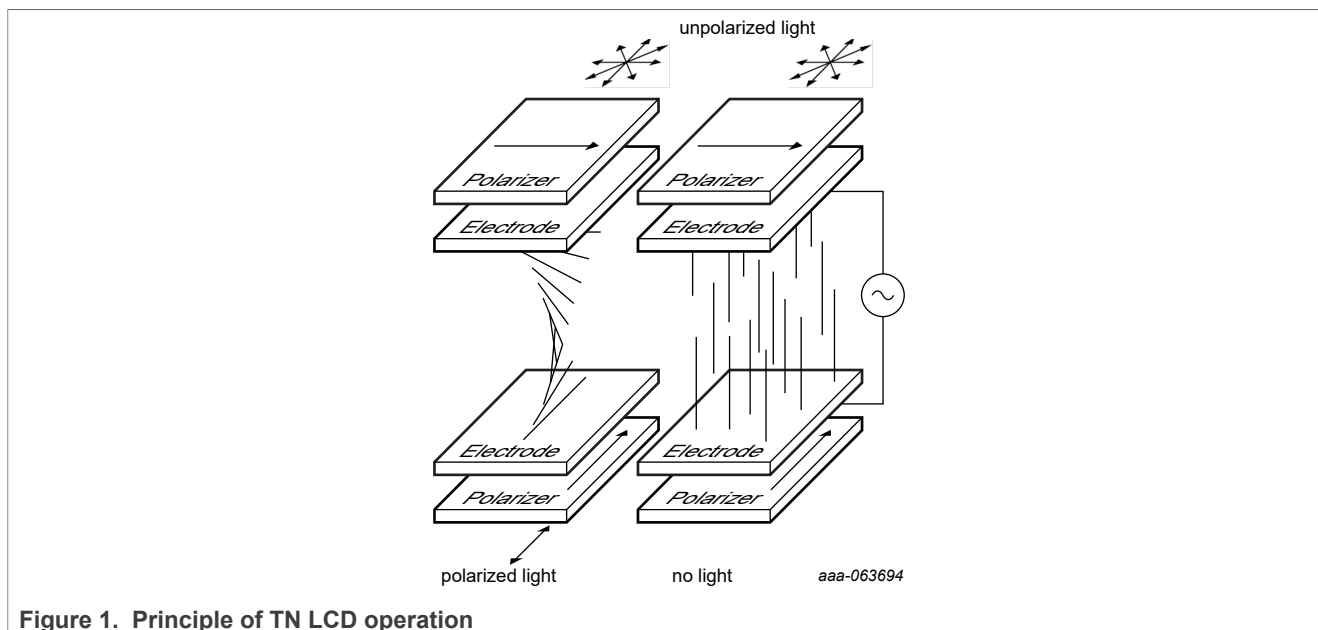

Figure 1. Principle of TN LCD operation
In TN displays, the polarizers and alignment layers are orientated perpendicular to each other, as shown in Figure 1. There are two situations when LCD displays:
- OFF (invisible): when no voltage is applied to the electrodes, the light entering the display from the top is polarized by the top polarizer and, as it travels through the liquid crystals, its polarization rotates with the molecules. When it emerges, its polarization has been changed by 90 degrees and it passes through the bottom polarizer. See the left side of Figure 1. Since the light passes through the LCD, nothing is displayed on the LCD.
- ON (visible): when the alternating voltage is applied to the electrodes, most molecules arrange vertically. In this case, the polarization of the light passing through the liquid crystals remains unchanged and the light beam is blocked by the bottom polarizer. See the right side of Figure 1. Since the light is blocked, the shape filled by the liquid crystal molecules is displayed.